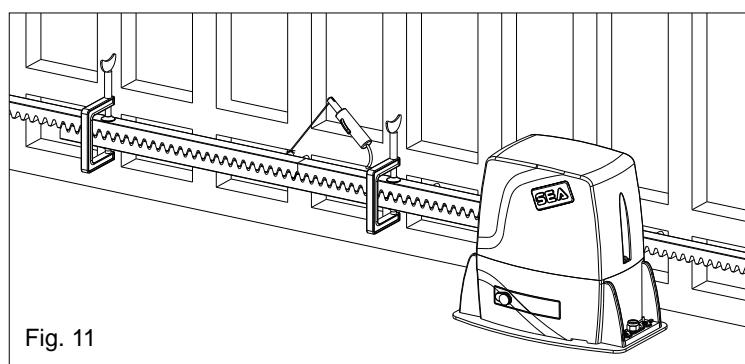

Fig. 11
**6.4.** Make sure that all the gear rack elements are perfectly aligned and placed correctly (teeth in phase). It's suggested to place two aligned elements in front of a third one as shown in Fig.11;